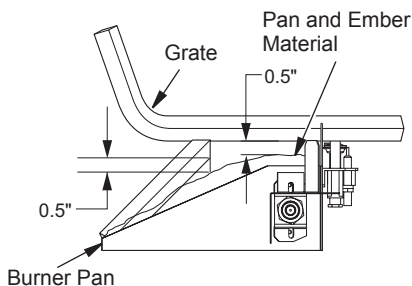

Figure 21 - Pan and Ember Material Clearances (P325/VP325 Models Shown)
- Place just enough to cover the entire surface and leave about a 1/2" gap under the lower grate members to allow air to flow (see Figure 21).